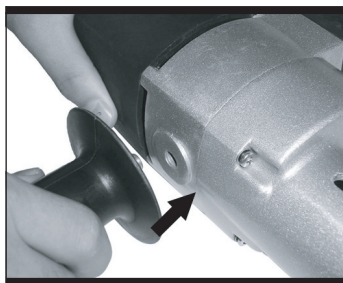

Fig 2
1. Installing the auxiliary handle (See fig2)